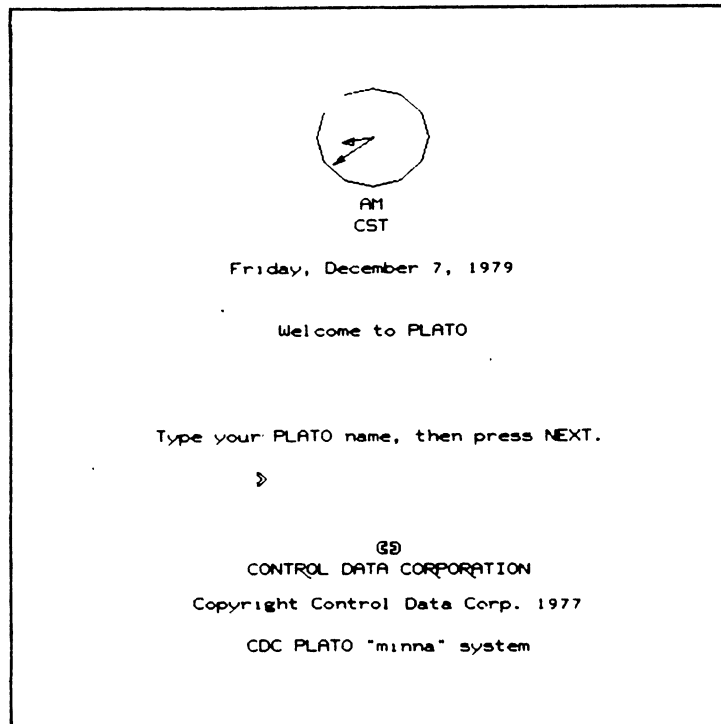

Figure B-1. Welcome to PLATO
5. Press the NEXT key on the PLATO keyboard. This causes the welcome to PLATO page to be displayed (figure B-1).